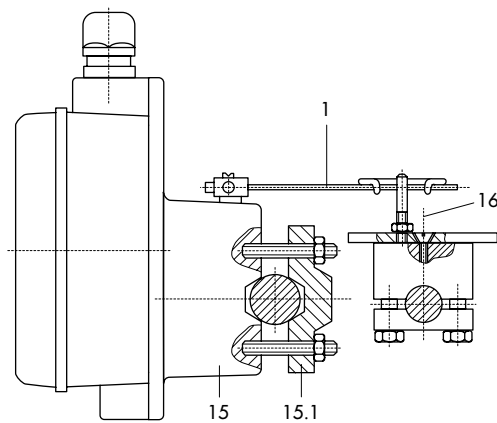

Fig. 12 · Attachment to valves with rod-type yoke
### Attachment (Figs. 12 and 13)
The positioners can be attached to actuators with cast yokes (Fig. 3) (e.g. Series 240, 250 and 280) and valves with rod-type yokes (Fig. 12) using an adapter (15). A clamping plate (15.1) is additionally required for valves with rod-type yokes.